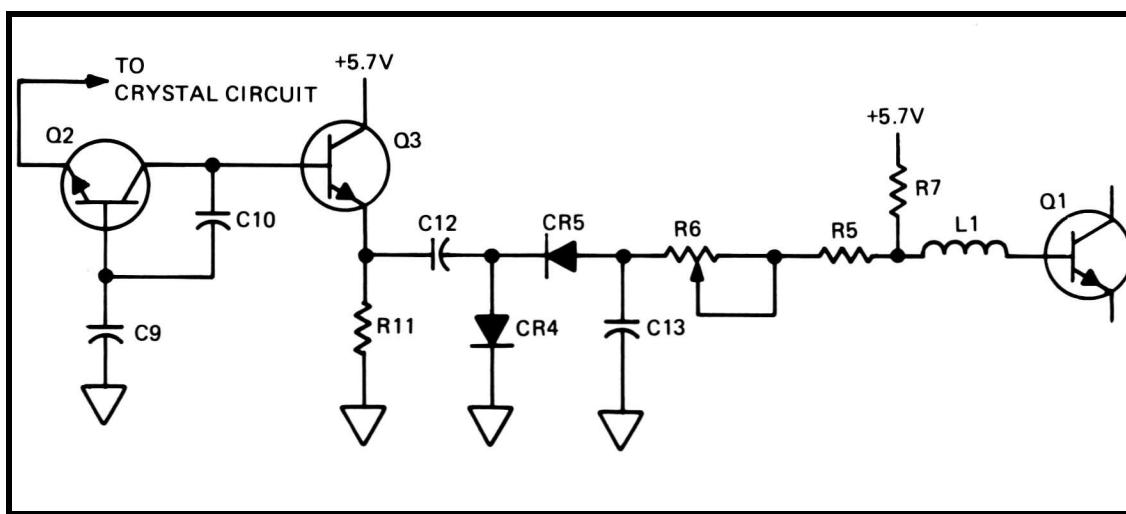

Figure 8-7. Automatic Gain Control (AGC)
- 8-21. The output for the AGC (and output amplifiers, discussed later) is taken across capacitor C10, and is applied to Q3. Since C10 is effectively in series with the crystal, the current passing through the crystal also passes through C10. The voltage across C10 is therefore proportional to the current through the crystal. As the output of the oscillator changes, the output of the peak detector circuit changes. This change in the AGC voltage changes the voltage applied to the base of Q1 and stops the impending output voltage change. A peak detector circuit formed by C12, CU, CR4 and CR5 is used to develop a dc voltage to control the crystal current. This negative control voltage forms the lower half of a voltage divider for the base of Q1 (R6 and R7). Controlling the bias current and the gain of Q1. Thus AGC action controls the output signal level. (See Figure 8-7).